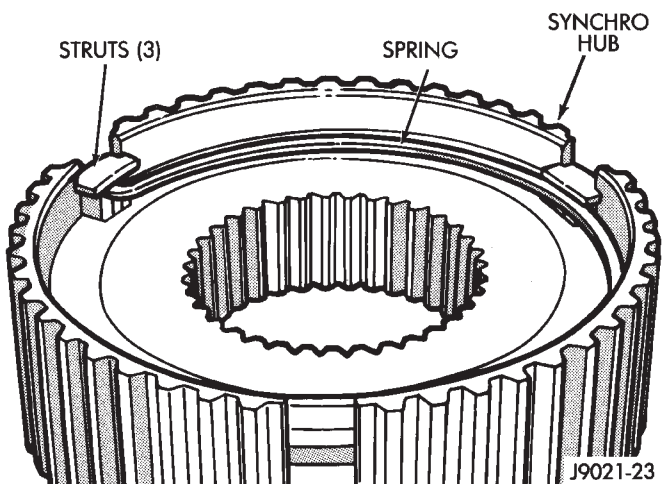

Fig. 49 Installing Synchro Hub Spring And Struts
(29) Install spring and three struts in synchro hub (Fig. 49).